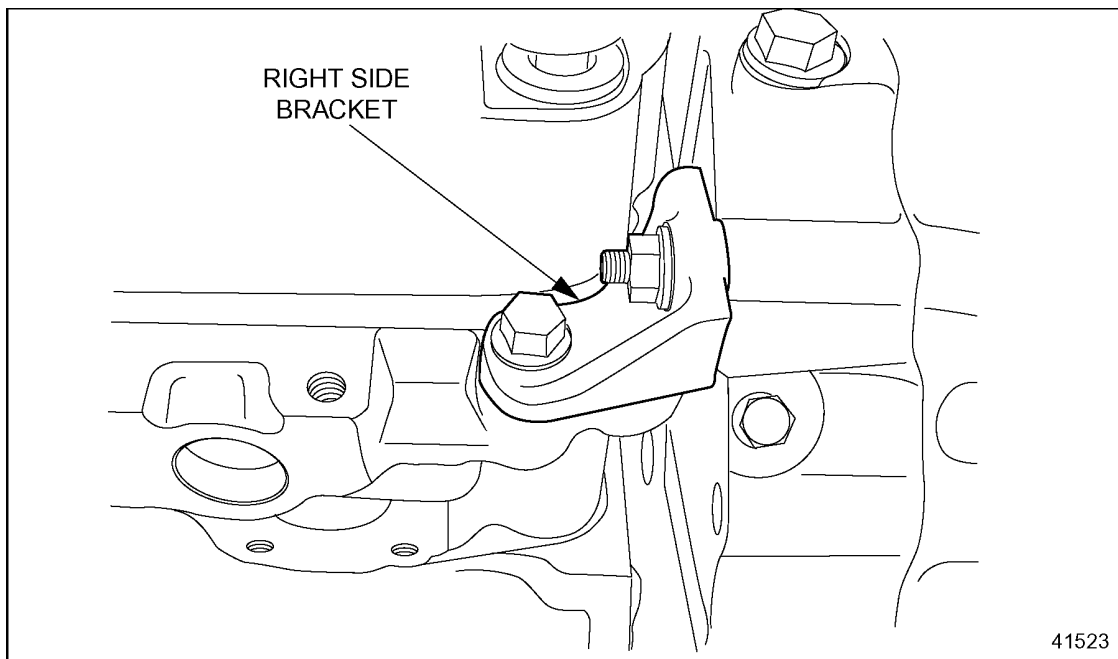

Figure 1-191 Gear Case Stiffening Bracket (Right Side)
- [d] Install the bolt securing the right side gear case stiffening bracket to the gear case first and torque to 74.57–81.35 N·m (55–60 lb·ft). Then install the bolt attaching bracket to the cylinder head and torque to 58.30–73.21 N·m (43–54 lb·ft). See Figure 1-191.